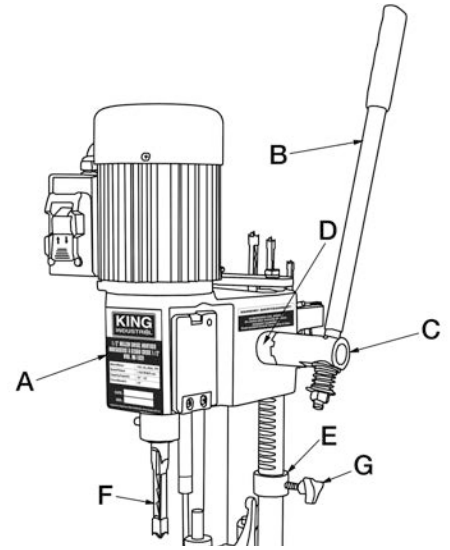

FIGURE 11
The head (A) Fig.11 is raised and lowered by means of the lever (B). For maximum leverage during the mortising operation the lever can be repositioned by pulling out the hub (C) of the lever assembly and repositioning the hub on the pinion shaft (D).
A depth stop (E) Fig.11 is provided to limit the depth of the chisel (F). Put a mark on an easily accessible end of the workpiece to be mortised, at the depth you require. Loosen the depth stop lock knob (G) and lower it down. Pull the head down, and put the end of the wood against the chisel. Position the head so that the chisel points or the bit point are at the depth required. Raise the depth stop (E) and position it up against the underside of the head and retighten the depth stop lock knob (G).